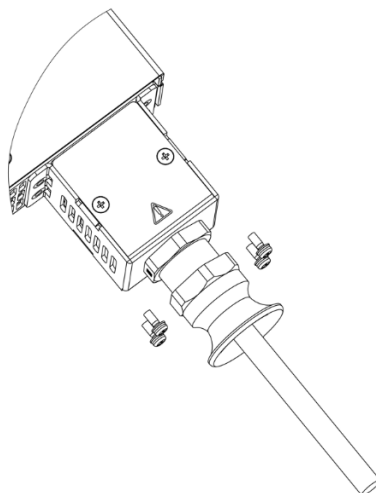

Figure 7-8: Strain Relief Bracket Assembled to Power Source Rear Panel
10. Fix the strain relief bracket assembly to the rear panel with four SEMS screws as shown in **Figure 7-8** using a tightening torque of 4.7–5.7 Lbf-inch (0.53–0.64Nm).